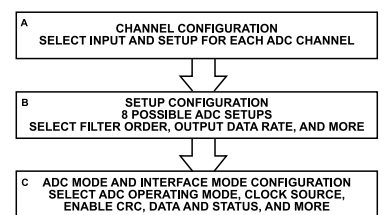

Figure 17. Suggested ADC Configuration Flow
Figure 17 shows an overview of the suggested flow for changing the ADC configuration, divided into the following three blocks:
- ▶ Channel configuration (see Box A in Figure 17).
- ▶ Setup configuration (see Box B in Figure 17).
- ▶ ADC mode and interface mode configuration (see Box C in Figure 17).